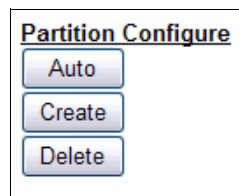

Figure 4-21 RSA II Web interface: Partition Configure buttons (create partitions)
- ▶ Partitions Configure buttons are shown in Figure 4-21.